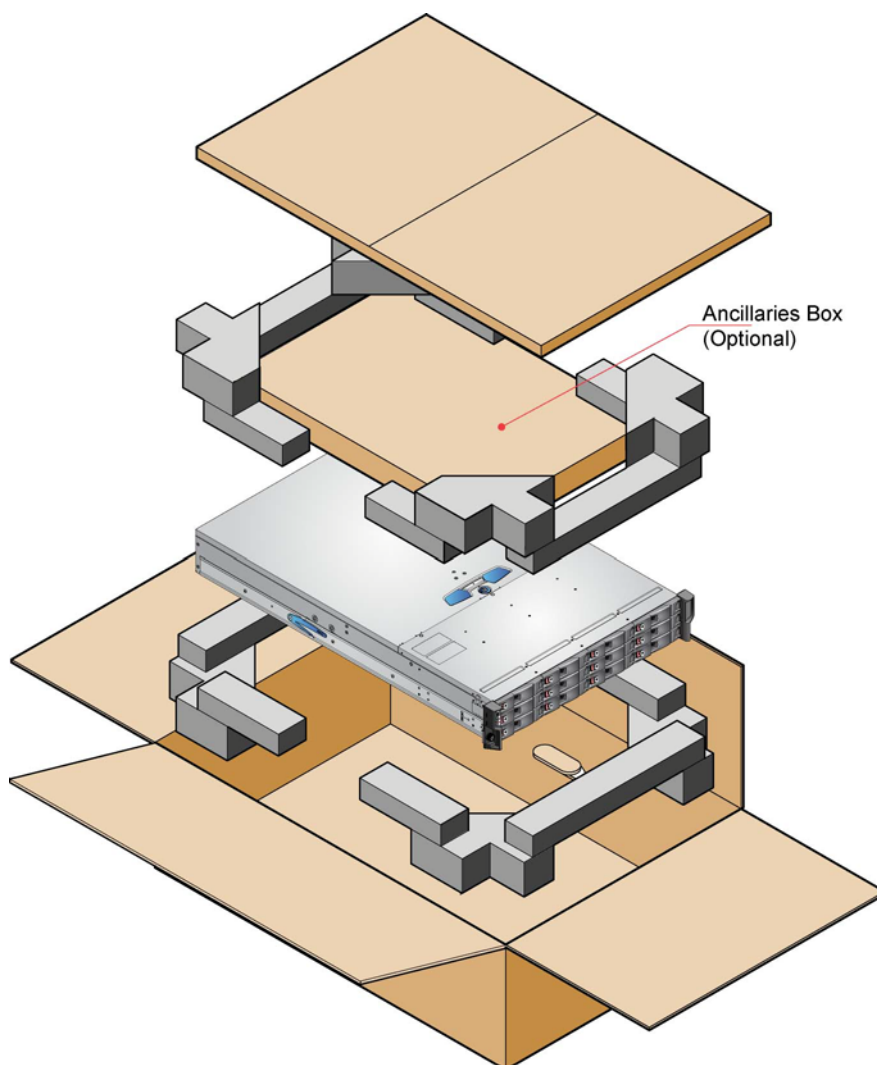

Figure 3–2 Unpacking the System
- 2 Unpack the system (see Figure 3–2).
- 3 Locate the rail location pins inside the front of the rack post (see Figure 3–3). (The rail location pins are pre-assembled to suit square hole or round hole racks. These pins should not be removed.)